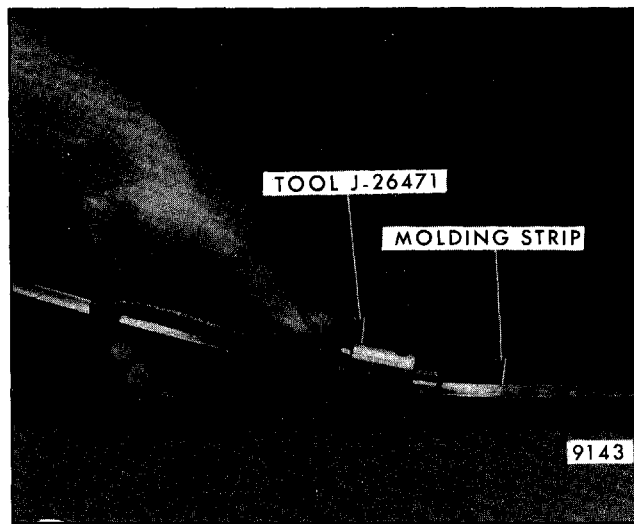

Fig. 11-19-Tailgate Window Molding Installation
7. Keeping the inserter eye in the cavity, draw the tool and continue to feed the molding strip into place (Fig. 11-19).